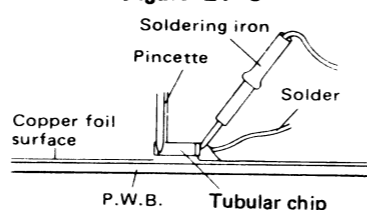

Figure 21-4
- Holding one end of the chip with a pincette, completely solder both terminals of it one after another. See Fig. 21-4.
- When touching the chip with a pincette, hold its terminal but never its body. See Fig. 21-4.